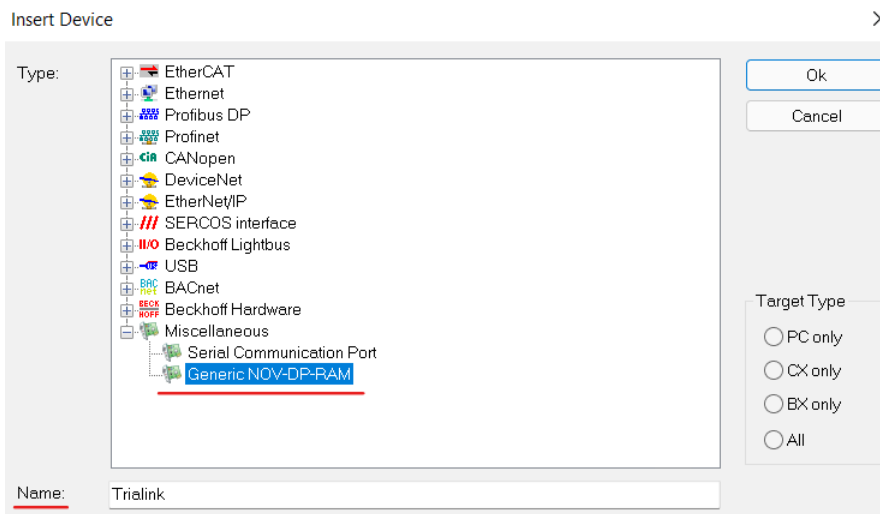

Figure 2: Add a *Tria-Link* Adapter to the solution
2. In the dialog select **Miscellaneous > Generic NOV-DP-RAM** (Figure 2).